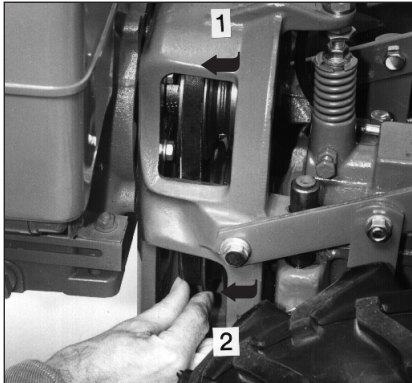

Figure 5-21: Seat belt in upper pulley, then in lower pulley (High Range position shown).
6. Move the top half of the belt into the HIGH Range groove (groove closest to the engine) on the top pulley (Figure 5-21).
7. Move the bottom half of the belt into the HIGH Range groove of the lower pulley (groove closest to engine— Figure 5-21). If extra slack is needed, hold up Wheels/Tines/PTO Drive Lever while moving the belt. Verify the belt is seated properly on the pulleys.